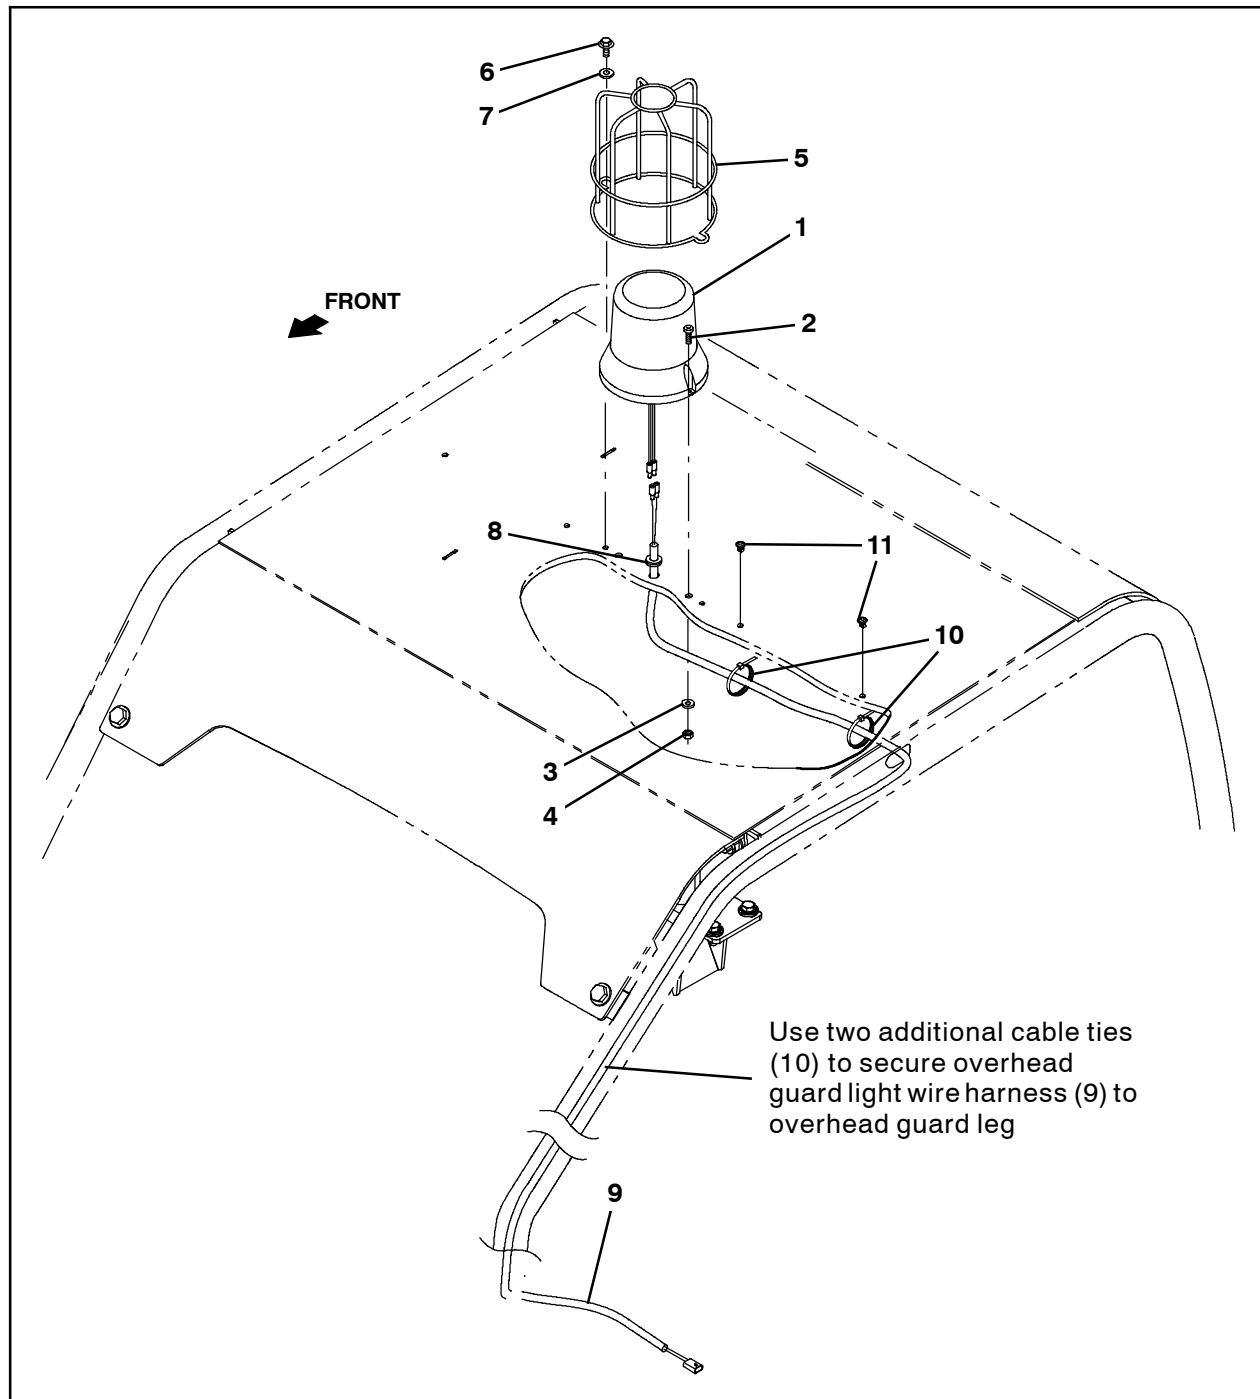

FIG. 1
1. Insert the rubber grommet (8) into the hole in the overhead guard. (Fig. 1)
2. Route the strobe light (1) wires down through the rubber grommet (8) in the overhead guard. (Fig. 1)
3. Use two M5 pan screws (2), two flat washers (3), and two M5 hex nuts (4) to install the strobe light (1) onto the overhead guard. (Fig. 1)
4. Use two M6 hex screws (6) and two flat washers (7) to install the light guard (5) onto the overhead guard. (Fig. 1)
5. Connect the overhead guard light wire harness (9) to the strobe light (1). (Fig. 1 / Fig. 3 / Fig. 4)
6. Route the overhead guard light wire harness (9) down to the main wire harness and connect the harness to the main harness. (Fig. 1 / Fig. 3 / Fig. 4)
7. Insert two tie clips (11) into the overhead guard. (Fig. 1)
8. Use two cable ties (10) to secure the overhead guard light wire harness (9) to tie clips (11) in the overhead guard (Fig. 1)
9. Use two additional cable ties (10) to secure the overhead guard light wire harness (9) to the overhead guard leg. (Fig. 1)